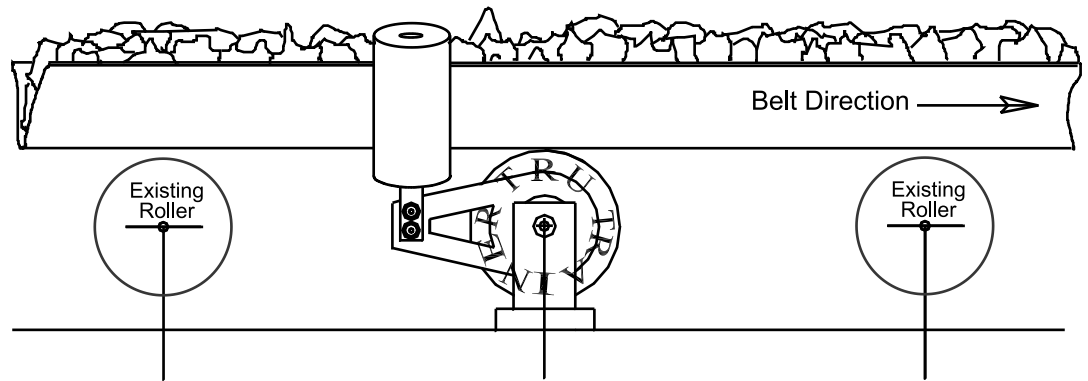

Fig. 10
6. Very important: Ensure the Tru-Trainer Trough is installed in the correct direction. The wing rolls must touch the oncoming conveyor belt first. (See Fig. 10)